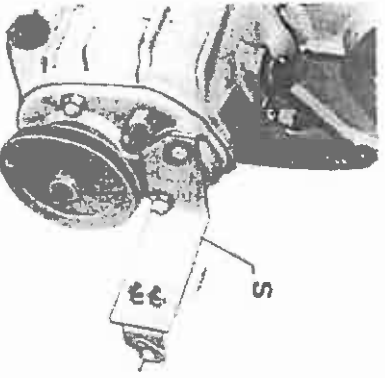

Fig. E2
- le support S - Fig. E2, en utilisant à distance (2 vis M 6)
- the support S - Fig. E2, using 2 screws M 6 at distance.